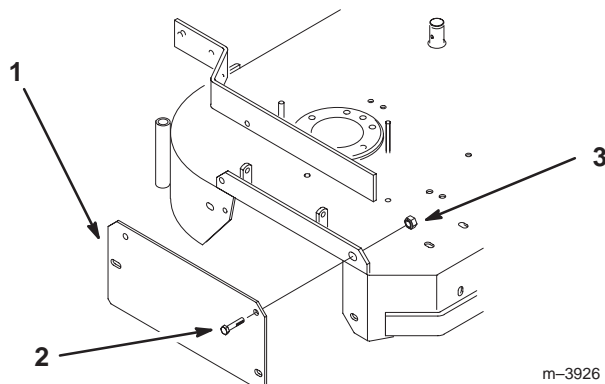

Figure 4
2. Secure the cover plate to the mower with 4 bolts (3/8 x 3/4 inch) and 4 flange nuts (3/8 inch) (Fig. 4).